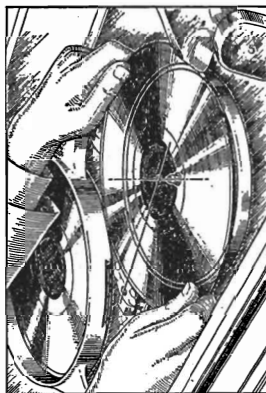

Figure 11—Method of checking transfer lever lateral adjustment
- (d) Improper Position of Record Transfer Lever. When a ten-inch record is placed so that its edge touches both pins on the record transfer lever, a line drawn from the center of the hole of the lever to the center of the record hole should pass directly over the center of the spindle. See Figure 11. The two record transfer lever mounting screws can be loosened and the lever shifted until this condition exists. Also when a record is on the turntable it should just clear this lever. Unless this adjustment is properly made the record may not center properly over the spindle.
One remote control box is supplied as standard equipment. Any number of additional boxes may be installed if desired although only one box can be used at a time for controlling the receiver. The boxes should be connected in parallel at the terminal strip on the rear of the Radiola. Figure 11 shows such a connection.